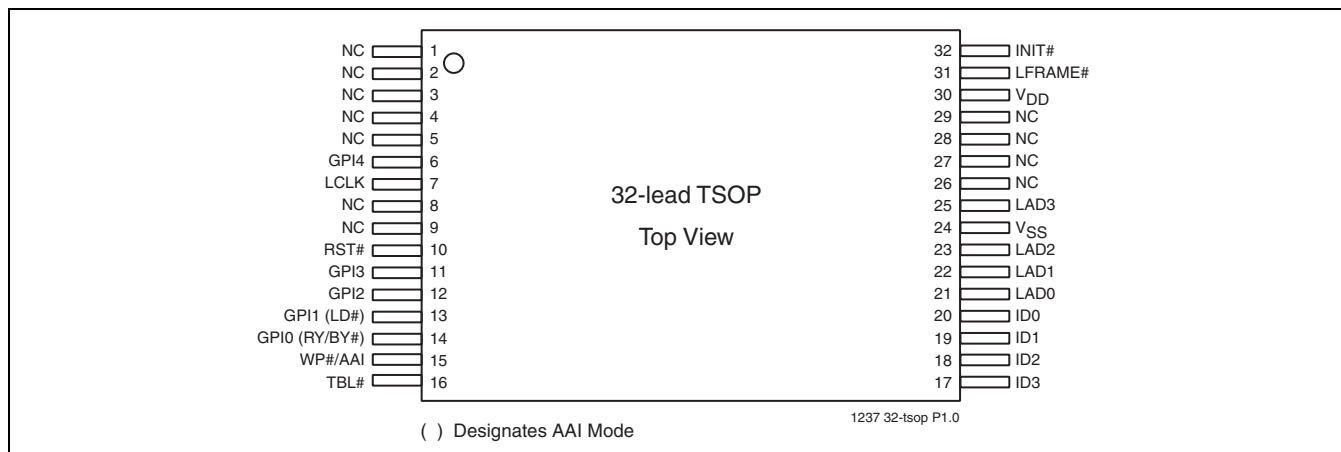

FIGURE 4: Pin Assignments for 32-lead TSOP
- FIGURE 4: Pin Assignments for 32-lead TSOP 9